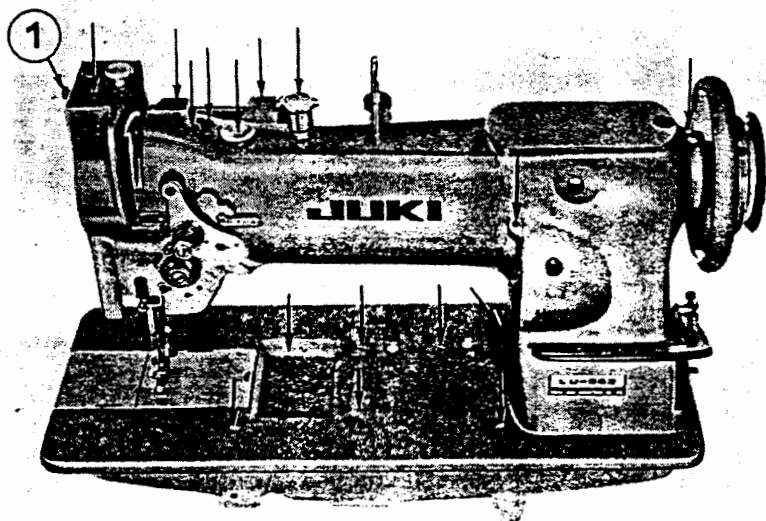
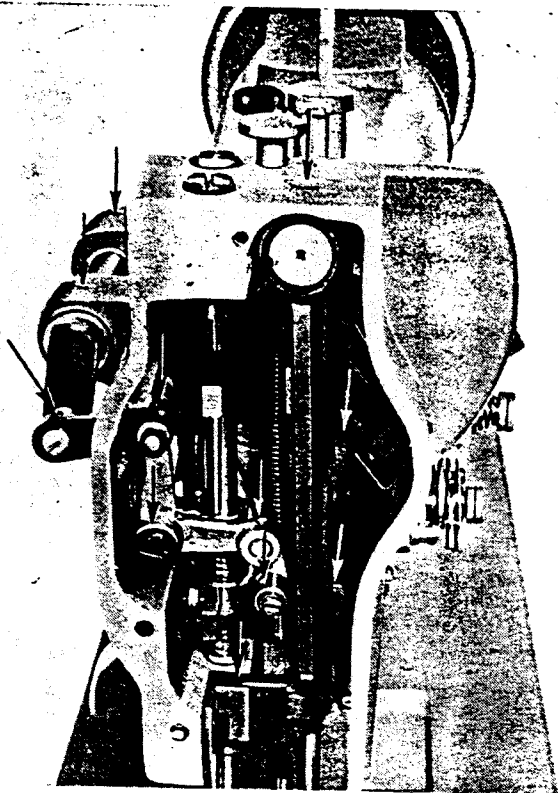

Fig. 2
Fig. 3
Be sure to oil all parts shown by arrows in Fig. 2-5. For oiling the inside parts of the face part, loosen the face plate set screw (Fig. 2 ①) and by placing the face plate on top, oil the oil wick and the moving parts as shown in Fig. 3 (arrows).